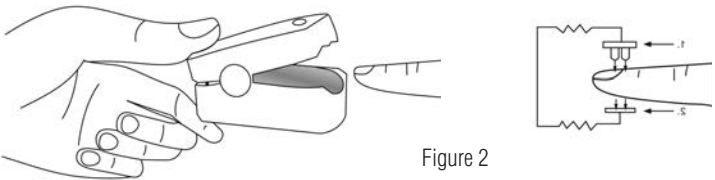

Figure 2
3. Squeeze the end opposite the power switch between the thumb and forefinger in order to open the device. There is a textured surface on the battery cover side to facilitate grip. (Figure 2)
10. Remove the patient's finger from the device by squeezing between forefinger and thumb as indicated in Figure 2.